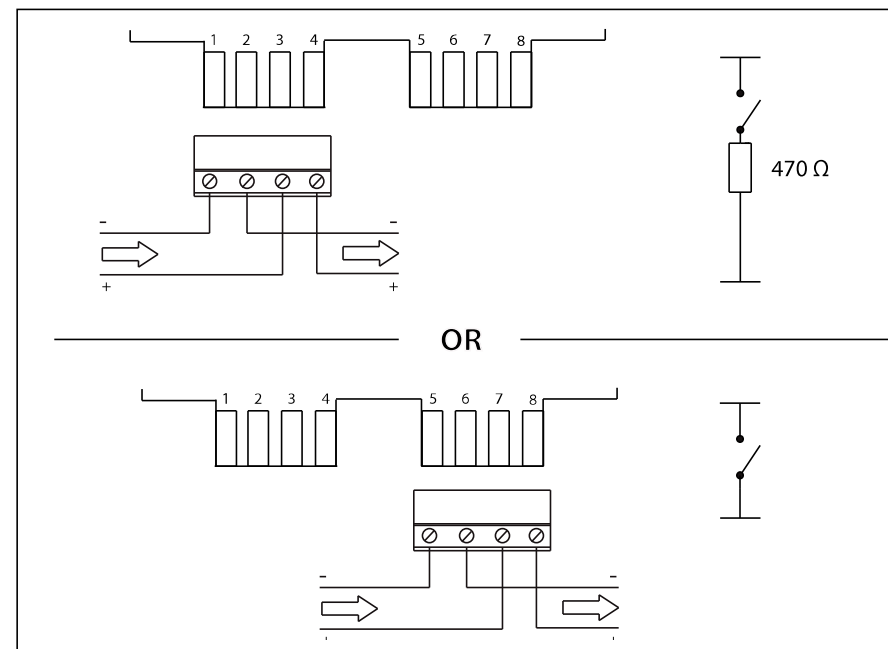

Fig. 2 Terminal block connections
2. Run the cables into the backbox and connect them to the terminal block as shown in **Fig 2**. Ensure that functional earth/screen continuity is maintained.
3. Unlock the small front cover by inserting the forked key and pushing it home. Remove key, slide the cover down and remove the deformable element. Connect the terminal block as shown in **Fig. 2**, secure the call point to the backbox and refit the deformable element as required. Finally, replace the front cover in the reverse order in which it was removed and push it up until it locks.